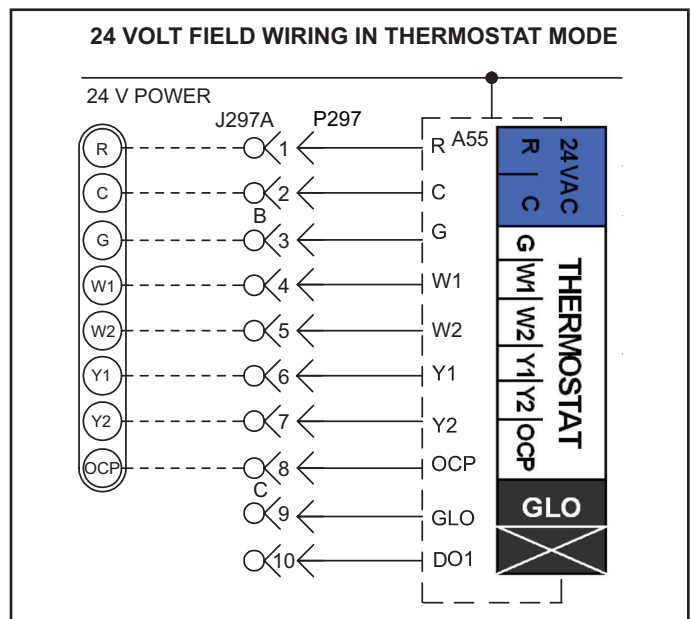

FIGURE 14
- 4 - Wire as shown in FIGURE 14 for electro-mechanical and electronic thermostats. If using other temperature control devices or energy management systems see instructions and wiring diagram provided by manufacturer.